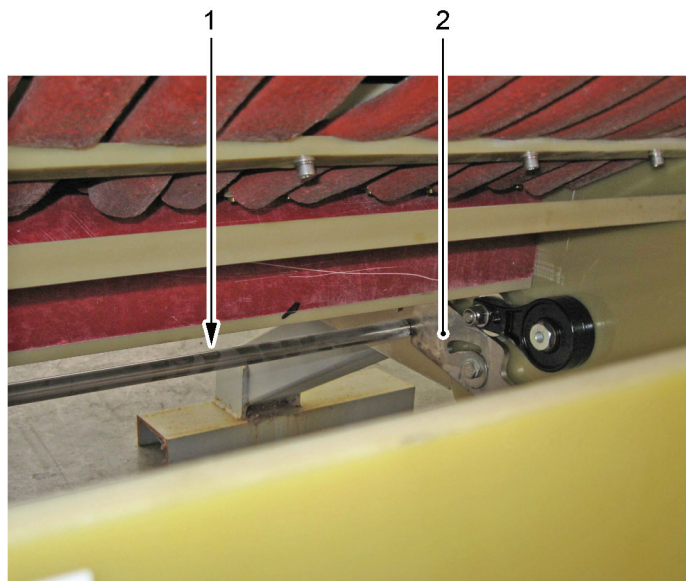

Figure 6.38 - Release of the bar on the opposite shoulder
- 12) The two hooking arms (see Figure 6.38/2) will release the bar (1) on the opposite shoulder.